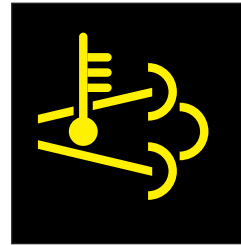
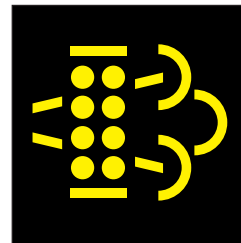

Figure 85. Exhaust Temperature High Indicator
Figure 86. Regeneration Required Indicator
This process will automatically occur every 30 minutes. Fuel will be injected into the exhaust stream to elevate the exhaust temperature. No operator action is required for this process. The **Exhaust Temperature High indicator** (Figure 85) will appear on ECU-845/670 controllers.
The **Regeneration Required indicator** (Figure 86) will appear on the ECU-845/670 controller, indicating that Force Regeneration is required. At this point, perform the Force (Manual) Regeneration by following these steps:
4. The regeneration process will start automatically, lasting for at least 30 minutes. The Exhaust Temperature High indicator (Figure 85) and Regeneration Required indicator (Figure 86) will appear on the ECU-845/670 controllers during the process and turn off when the regeneration process has been completed.